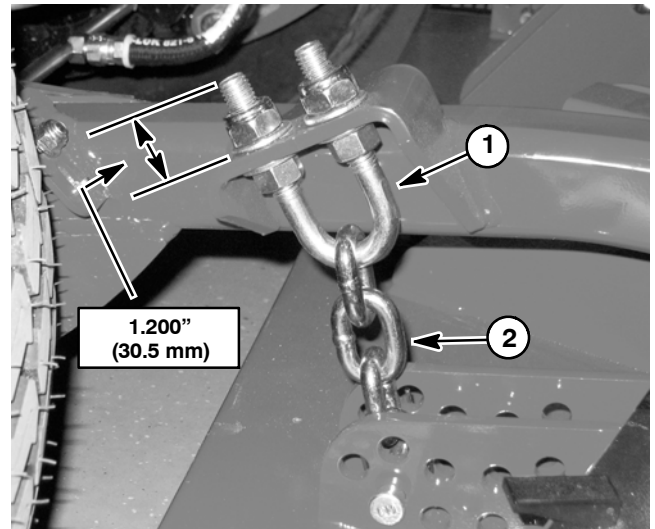

Figure 4
4. If sensing plate (item 32) was removed from lift arm, secure plate fully forward in lift arm slot.
5. If height-of-cut chain u-bolt was removed from lift arm, assemble u-bolt so that threaded portion extends **1.200" (30.5 mm)** above lift arm mounting plate (Fig. 4). This dimension is a starting point that might need additional adjustment for deck pitch correction (see step 12 below).